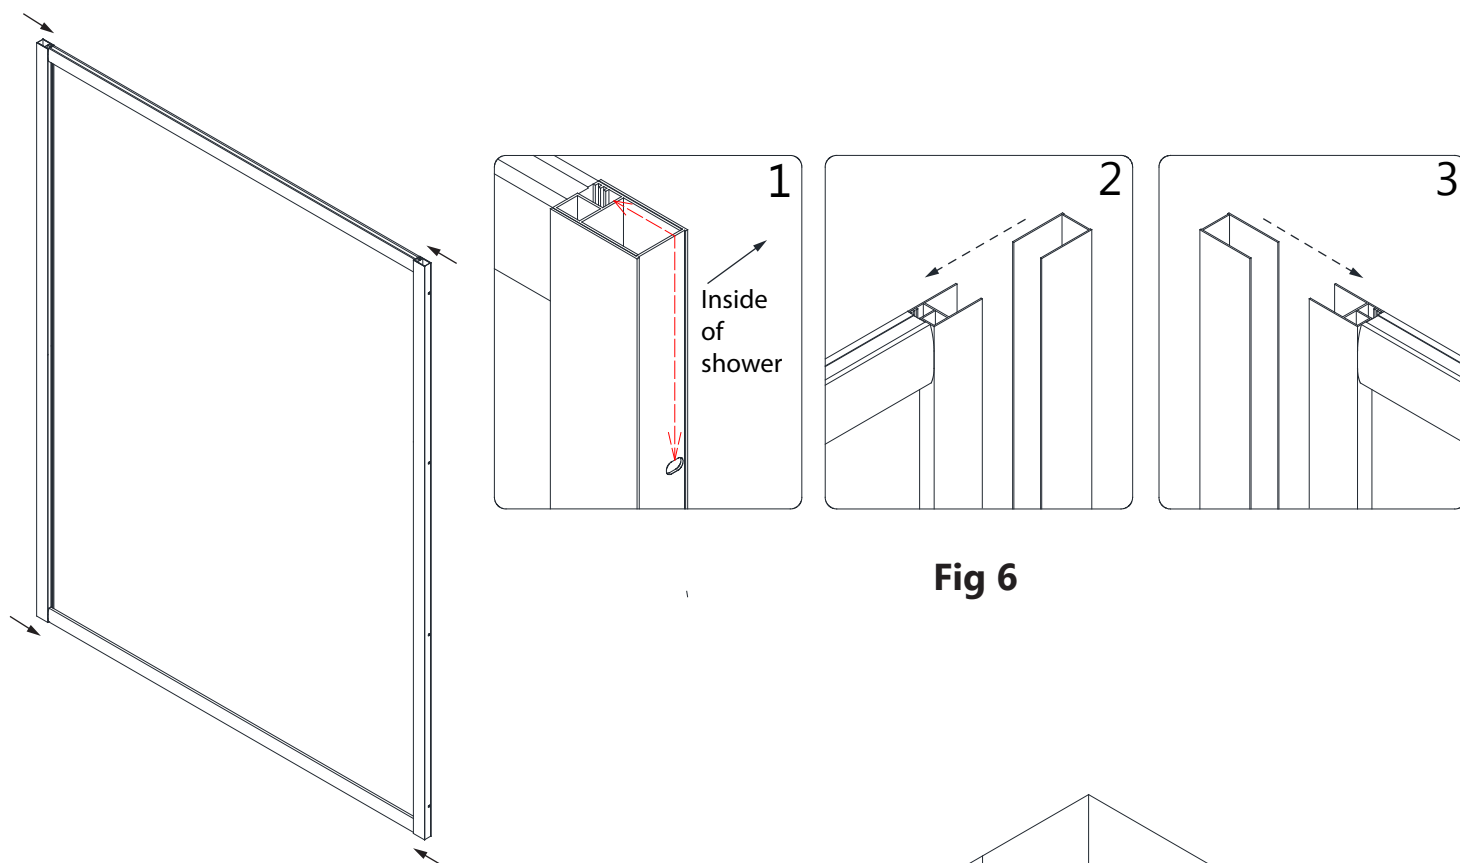

Fig 6
5. Slide the **Wall Profiles (#02)** all the way onto the **Glass Profiles (#01)** on both sides. Note that the holes in the wall profiles are off-center, and should line up with the back side of the frame, in-line with the groove for the panel glass (**Fig 6.1**). (**Fig 6**)